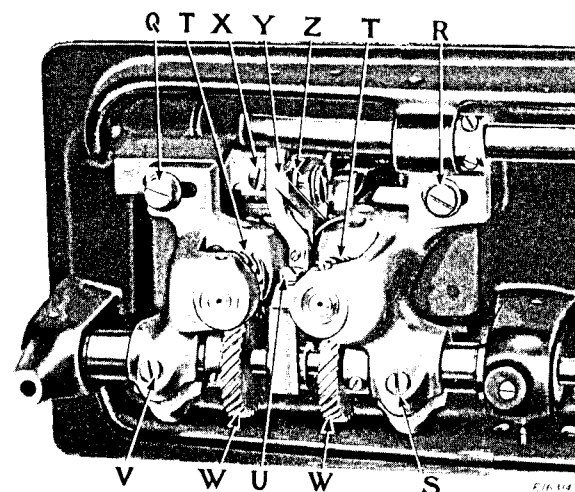
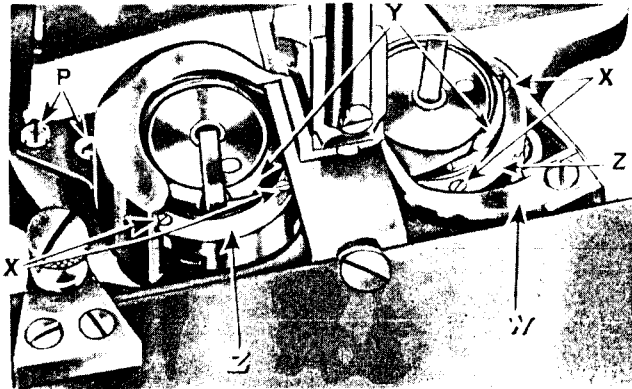

Fig. 18. Adjustment of Hook Saddles
Fig. 19. Removing Bobbin Cases
The lower knife can be adjusted sidewise by loosening screw (X, Fig. 18) and moving the bracket (Y, Fig. 18) to right or left as desired.
In case the sewing hooks are not correctly timed, turn balance wheel over toward you until needle bar has descended to its lowest point and has risen until the lower timing mark across the needle bar is just visible at the end of the needle bar frame. Then loosen the four screws in the hook shaft gears (T, Fig. 18) and turn the sewing hooks until the point of each hook is at the center of its needle, after which securely tighten the four screws in the gears (T), leaving just enough end play to the shaft for lubricating purposes.
The bobbin case opener (W, Fig. 19) should be set so that it touches the bobbin case as lightly as possible, yet turns the bobbin case enough to make a sufficient opening for the free passage of the thread between the throat plate and the bobbin case.
Turn the balance wheel over toward you until the points of the sewing hooks are at the center of the needles. Loosen the four screws (Q, R, S and V, Fig. 18) underneath the bed of the machine and move the hook saddles to the right or left, as may be required, until the points of hooks are as close to the needles as possible without striking them, then securely tighten the four screws (Q, R, S and V).
Remove the throat plate, take out the two screws (P, Fig. 19) and remove the hook guard. Remove the four hook gib screws (X, Fig. 19) from the sewing hooks, lift off the hook gibs (Z), and remove the bobbin cases.
Remove the bobbin cases as instructed above, remove bobbin case stop (W, Fig. 19), then take out the four screws from the hook shaft gears (T, Fig. 18) and lift out the sewing hooks.
Remove the throat plate; clean the lint and dust from between the feed points and replace the throat plate; tip the machine back and turn the balance wheel towards you until the feed dog is at its highest position; loosen screw (U, Fig. 18) in the feed lifting cam fork and raise or lower the feed dog, as may be required, then retighten the screw (U).
Loosen screw and pull lower knife (Z, Fig. 18) down off knife holder (Y, Fig. 18).